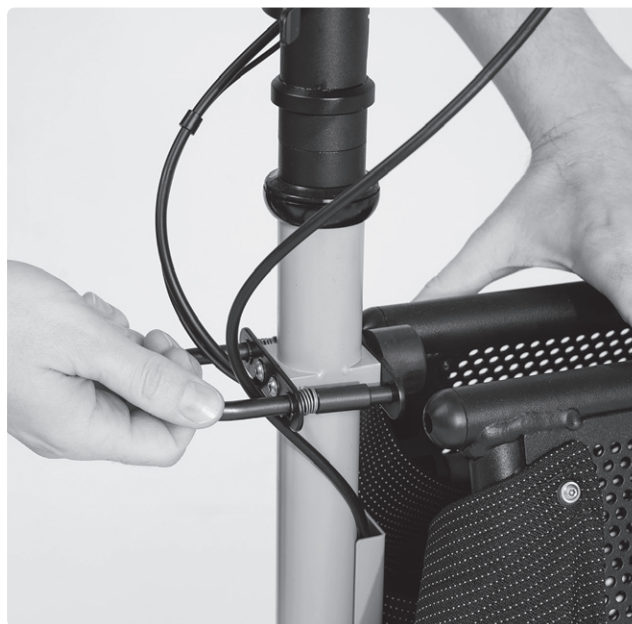

FIG. 55
- To close the basket move the basket wings together, hold the basket wing in one hand and pull the locking bar back with the other hand to then let it snap into both basket wings (Fig. 55).